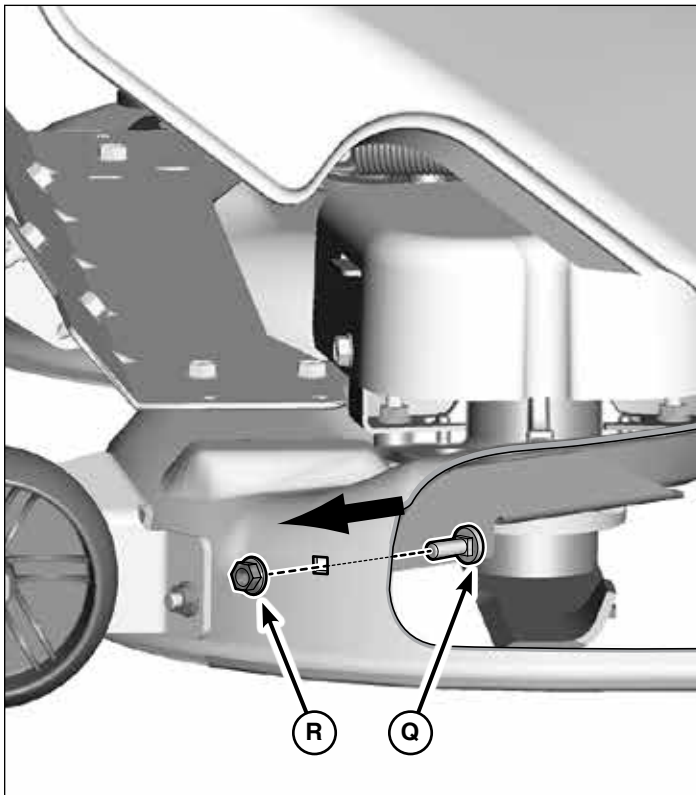

Figure 9
1. On the left side of the discharge opening, insert the carriage bolt (**Q**, Figure 9) through inside of the mower deck and secure with conical nut (**R**).